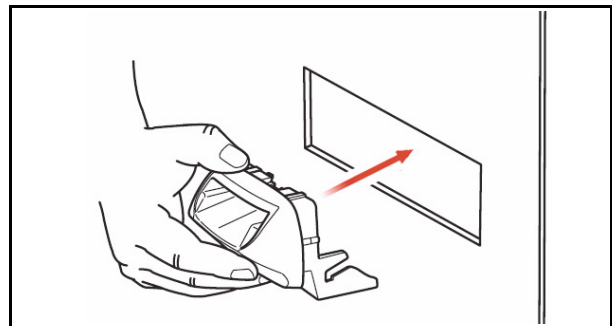

Figure 2-4 Installing the Taiko Bezel
6. Remove the two (2) Bezel Brackets and the two (2) Hexagonal Nuts from the Bezel.
7. Insert the Bezel into the previously cut-out area in the Door Front Panel as shown in Figure 2-4.